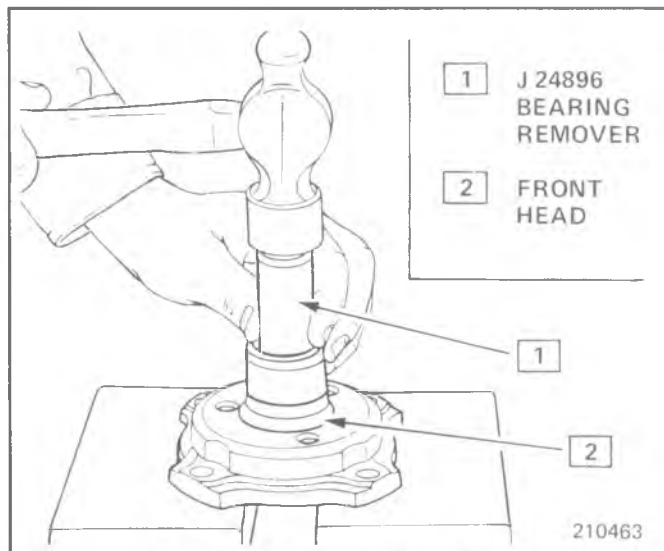

Fig. 1C1-38 Removing Main Bearing
- Place the Front Head assembly on two blocks, as shown in Fig. 1C1-38, and use Main Bearing Remover J 24896 to drive the Main Bearing out of the Front Head.